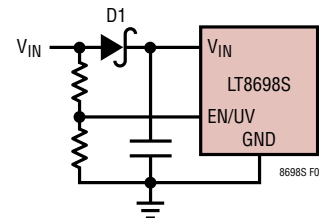

Figure 8. Reverse V_{IN} Protection
When operating with the output short circuited to a high voltage, such as an automobile battery, the current flow within the system will depend on the state of the LT8698S input supply V_{IN} . If V_{IN} is disconnected, such as may occur with the ignition switch in the off position, the LT8698S will draw approximately 2.5mA of quiescent current from the output if EN/UV is driven high and 0μA if the EN/UV is low. If V_{IN} is grounded or reverse connected, the body diode of the internal TOP power FET allows uncontrolled current flow from the output (SW) to the input (V_{IN}), potentially damaging the LT8698S. To prevent possible uncontrolled reverse current, see Figure 8.